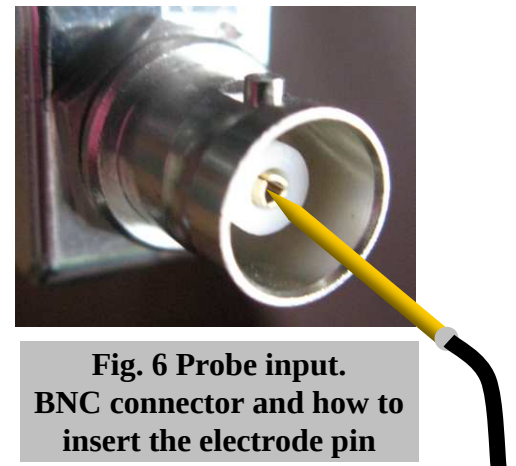

Fig. 6 Probe input. BNC connector and how to insert the electrode pin
8. Insert the red banana plug of the test cable into the red plant voltage socket of ch.1 (Fig. 6 (2.1)) on the rear of the Giga and the brass pin carefully into the probe input (BNC connector; Fig. 6). Note WARNING on p. 7.